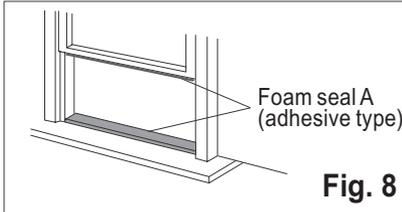

Fig. 8
1. Cut the Foam seal\* (adhesive type) to the proper lengths and attach them to the window and stool. (Fig. 8)